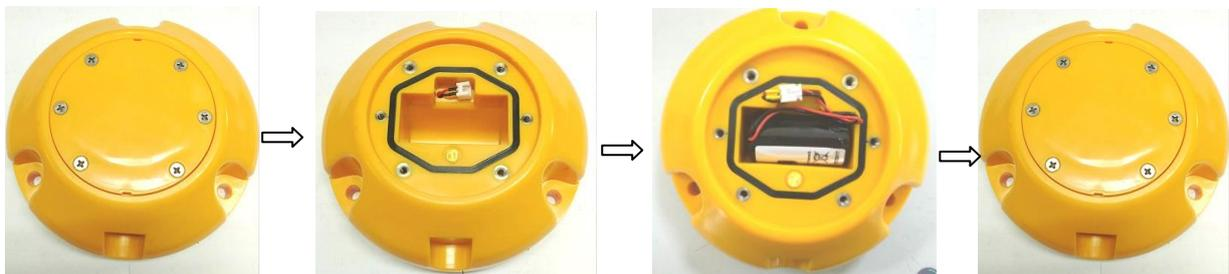

Figure 3 Battery installation or replacement
The steps to install or replace the battery are shown in Figure 3:
- 4) Place the 2-M6*35mm hex socket bolts with spring washers and flat washers in sequence, as shown in Figure 3, through the 2 holes on the manhole cover, mounting bracket and gasket. Drip the thread glue on the bolts and nuts, pre-tighten the 2-M6 nuts by hand, adjust the top surface of bracket to the same level of the bottom of the manhole cover, and then tighten the bolts and nuts with the inner hexagonal wrench.